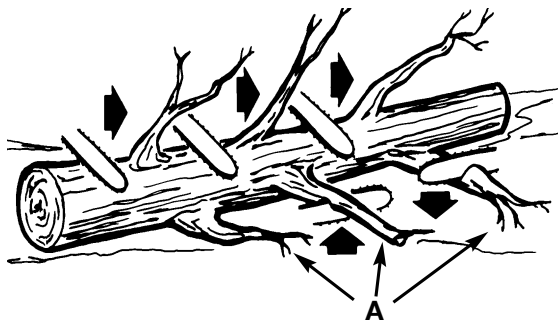

Fig. 16
Limbing a tree is the process of removing the branches from a fallen tree. Do not remove supporting limbs (A) until after the log is bucked (cut) into lengths (Fig. 16). Branches under tension should be cut from the bottom up to avoid binding the chain saw.